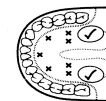

Figure 2
- a) **Oral Use:** Place thermometer under tongue as indicated by "✓" position shown in Figure 2. Close your mouth and breathe evenly through the nose to prevent the measurement from being influenced by inhaled/exhaled air.